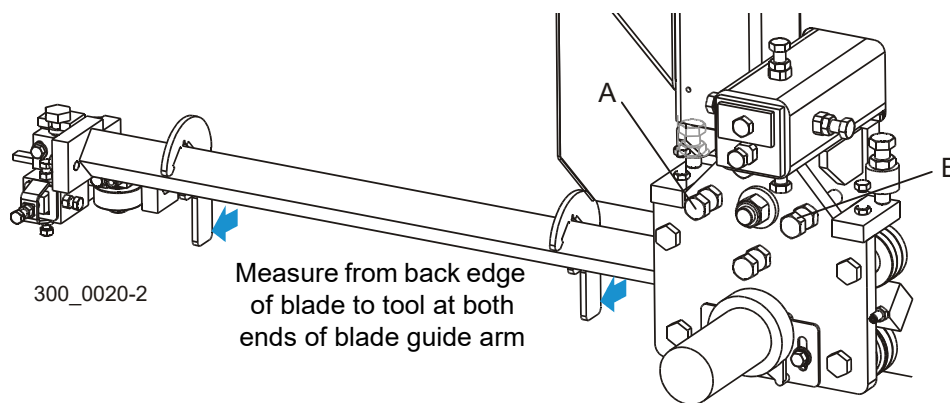

FIG. 6-33
See Figure 6-33. Attach the blade guide arm alignment tool to the blade guide arm, near the outer blade housing. Measure the distance from the back edge of the blade to the tool. Move the tool to the end of the arm near the blade guide. Measure again from the back edge of the blade to the tool. The two measurements at each end of the arm should be the same within $1/32$ ". To adjust the horizontal tilt of the arm parallel to the blade, adjust the bolts (A & B) on the blade guide arm mounting plate. Loosen the jam nuts. Adjust bolt (A) out and bolt (B) in to move the arm away from the blade. Adjust bolt (B) out and bolt (A) in to move the arm toward the blade. Recheck the distance from the back edge of the blade to the tool at both ends of the arm. Readjust if necessary. Tighten the jam nuts.